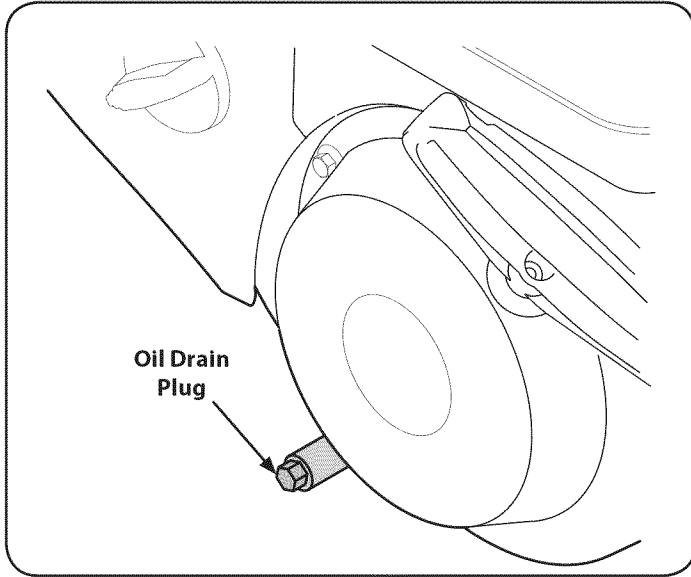

Figure 19
3. Remove oil drain plug. See Figure 19.